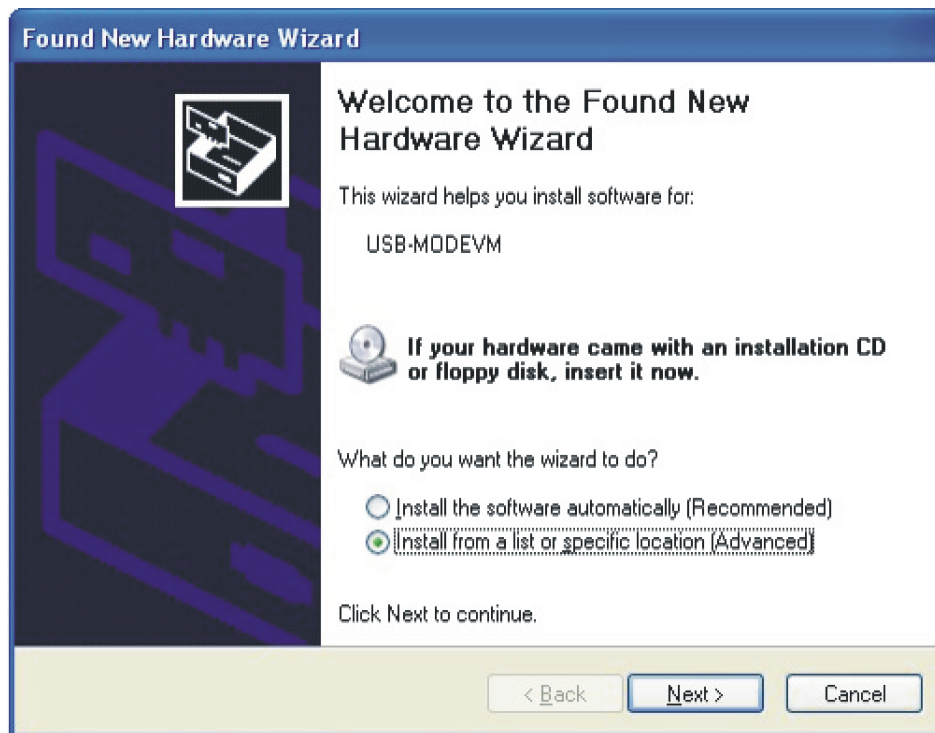

Figure 2. Found New Hardware Wizard Advisory Screen
10. If this is the first time a TPA2018D1YZFEVM is plugged in after installing the software, follow the Windows dialog (Figure 2), questions, and selections: